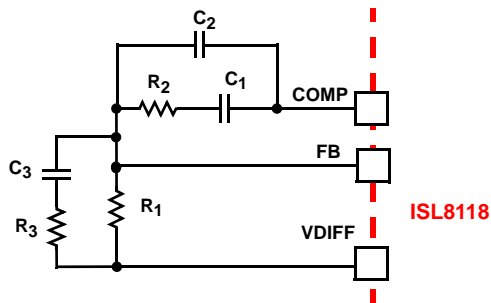
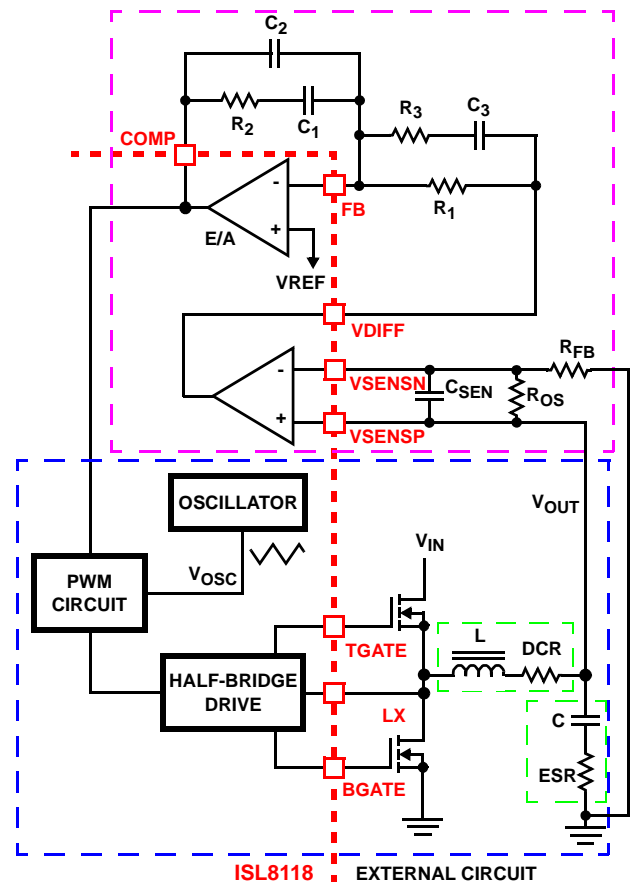

FIGURE 9. COMPENSATION CONFIGURATION FOR ISL8118 WHEN USING DIFFERENTIAL REMOTE SENSE
FIGURE 10. VOLTAGE-MODE BUCK CONVERTER COMPENSATION DESIGN
The ISL8118 single-phase converter is a voltage-mode controller. This section highlights the design considerations for a voltage-mode controller requiring external compensation. To address a broad range of applications, a type-3 feedback network is recommended (see Figure 9).
Figure 10 highlights the voltage-mode control loop for a synchronous-rectified buck converter, when using an internal differential remote sense amplifier. The output voltage ( $V_{OUT}$ ) is regulated to the reference voltage,  $V_{REF}$ , level. The error amplifier output (COMP pin voltage) is compared with the oscillator (OSC) triangle wave to provide a pulse-width modulated wave with an amplitude of  $V_{IN}$  at the LX node. The PWM wave is smoothed by the output filter (L and C). The output filter capacitor bank's equivalent series resistance is represented by the series resistor ESR.
The compensation network consists of the error amplifier (internal to the ISL8118) and the external  $R_1$ - $R_3$ ,  $C_1$ - $C_3$  components. The goal of the compensation network is to provide a closed loop transfer function with high 0dB crossing frequency ( $F_0$ ; typically 0.1 to 0.3 of  $F_{SW}$ ) and adequate phase margin (better than 45°). Phase margin is the difference between the closed loop phase at  $F_{0dB}$  and 180°. The equations that follow relate the compensation network's poles, zeros and gain to the components ( $R_1$ ,  $R_2$ ,  $R_3$ ,  $C_1$ ,  $C_2$ , and  $C_3$ ) in Figures 9 and 10. Use the following guidelines for locating the poles and zeros of the compensation network:
1. Select a value for  $R_1$  (1kΩ to 10kΩ, typically). Calculate value for  $R_2$  for desired converter bandwidth ( $F_0$ ). If setting the output voltage to be equal to the reference set voltage as shown in Figure 9, the design procedure can be followed as presented. However, when setting the output voltage via a resistor divider placed at the input of the differential amplifier (as shown in Figure 10), in order to compensate for the attenuation introduced by the resistor divider, the below obtained  $R_2$  value needs be multiplied by a factor of  $(R_{OS} + R_{FB})/R_{OS}$ . The remainder of the calculations remain unchanged, as long as the compensated  $R_2$  value is used.
A small capacitor,  $C_{SEN}$  in Figure 10, can be added to filter out noise, typically  $C_{SEN}$  is chosen so the corresponding time constant does not reduce the overall phase margin of the design, typically this is 2x to 10x switching frequency of the regulator. As the ISL8118 supports 100% duty cycle,  $d_{MAX}$  equals 1. The ISL8118 also uses feed-forward compensation, as such  $V_{OSC}$  is equal to 0.16 multiplied by the voltage at the VFF pin.